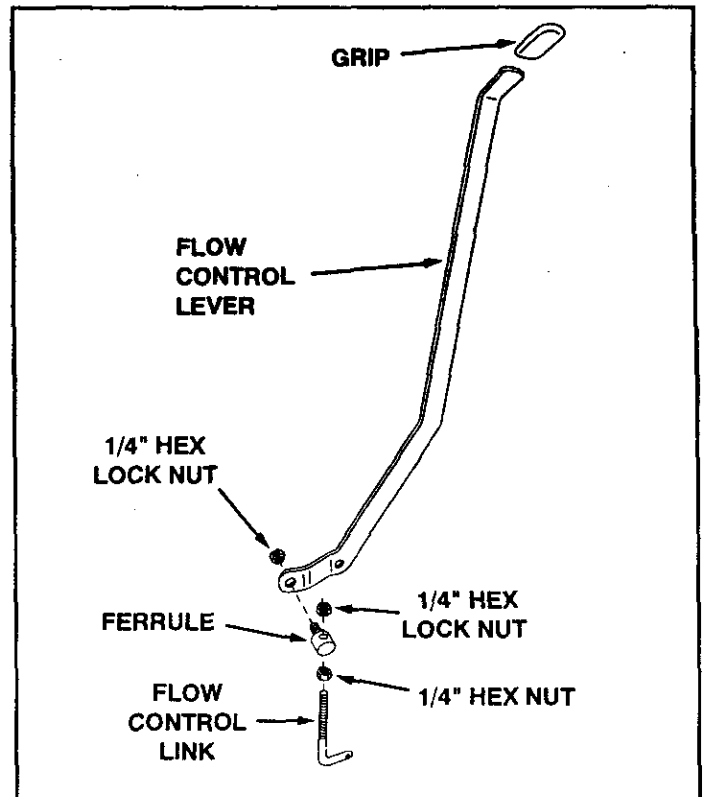

FIGURE 7
- Screw a 1/4" plain hex nut at least half way onto the flow control link. Assemble the ferrule onto the link and then start a 1/4" hex lock nut one or two turns onto the link. See figure 7.
- Assemble the ferrule into the hole at the end of the flow control lever using a 1/4" hex lock nut. **Tighten** the nut, leaving it loose enough that the ferrule can pivot. See figure 7.
- Assemble the grip onto the end of the flow control lever. See figure 7.